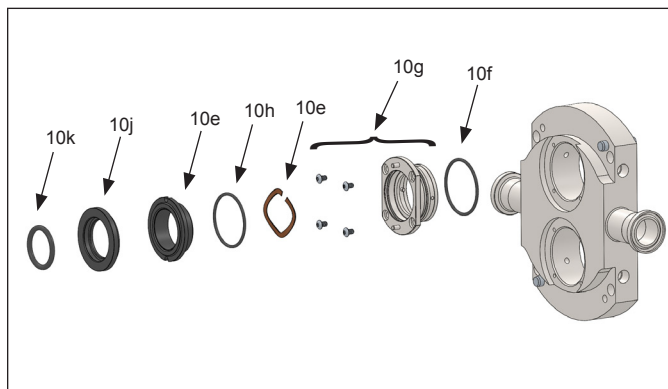

Figure 35.
1. Remove the stationary seals from the pump body (*Figure 35*, item 61).